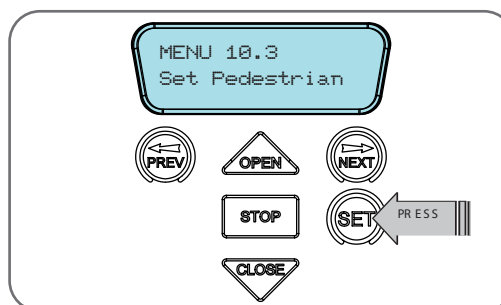

Fig 11.1
- Press SET on the wall control unit to save the Pedestrian Access position (**Fig. 11.1**).